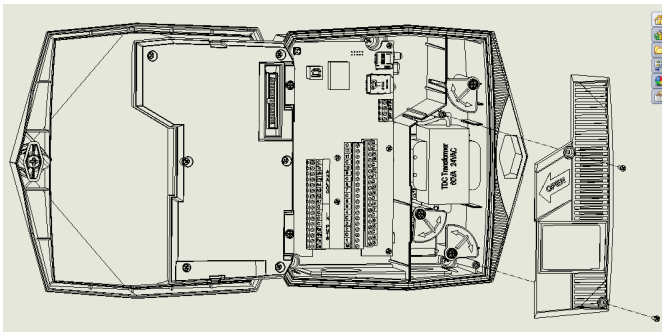
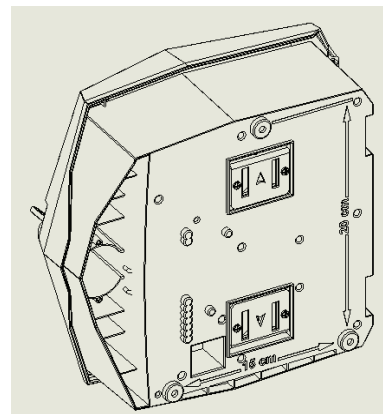
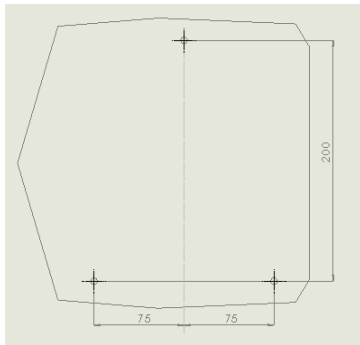

Figure 3: Opening the Internal Casing
Figure 4: Mounting Screw Holes on Back of Unit
Figure 5: Mounting Screw Holes Dimensions
3. For the internal casing on the right side, unscrew the two screws and open the casing (Figure 3). Mount the controller to the wall or to the control cupboard through the marked holes (Figure 4 and Figure 5) with the aid of three screws. Close the screws by hand only.
3. For the internal casing on the right side, unscrew the two screws and open the casing (Figure 3).